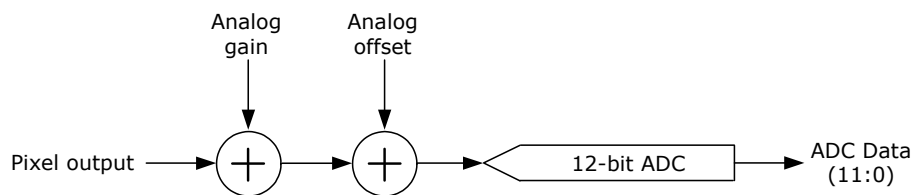

Figure 65: Signal path of MT9P031 (Guppy F-503 with CMOS sensor)
- Figure 65: Signal path of MT9P031 \(Guppy F-503 with CMOS sensor\) on page 116